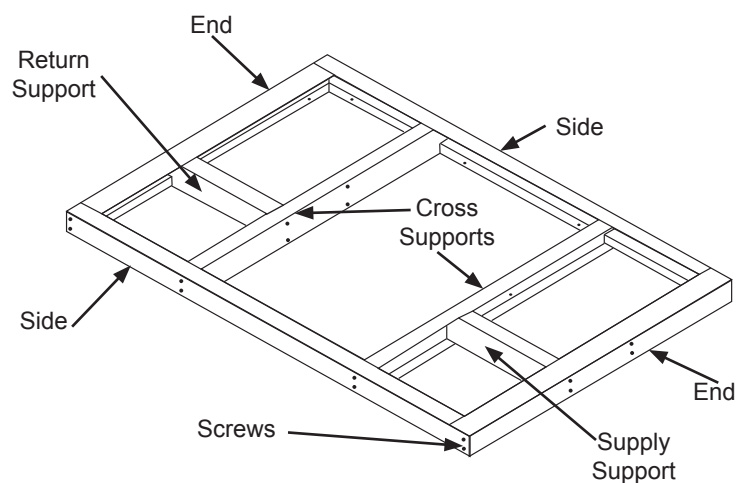

Fig. 1 - Roofcurb Adaptor
2. Assemble adaptor kit as shown in Fig. 1, using provided screws.
3. Caulk all (4) corners of adaptor so they are watertight.